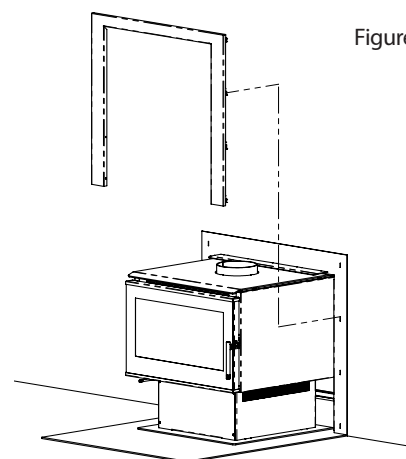

Figure 11
- Install the rear fascia panel as shown in figure 11. Press the locating tabs of the panel through the cut-out sections in the heat shield panel, then secure by pushing the fascia down until it is seated in position.